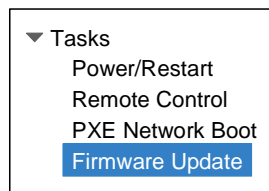

Figure 6-67 IMM menu bar
8. Click **Firmware Update** under Tasks, as shown in Figure 6-67.